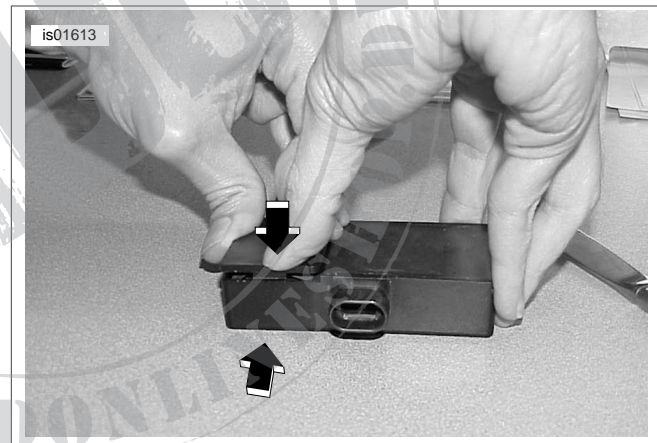

Figure 4. Engage Snaps (Smart Siren)
- e. See Figure 4. Hold the cover centered between the inside and outside walls with one hand while pressing down and away with the other hand on the near wall until the snap engages.